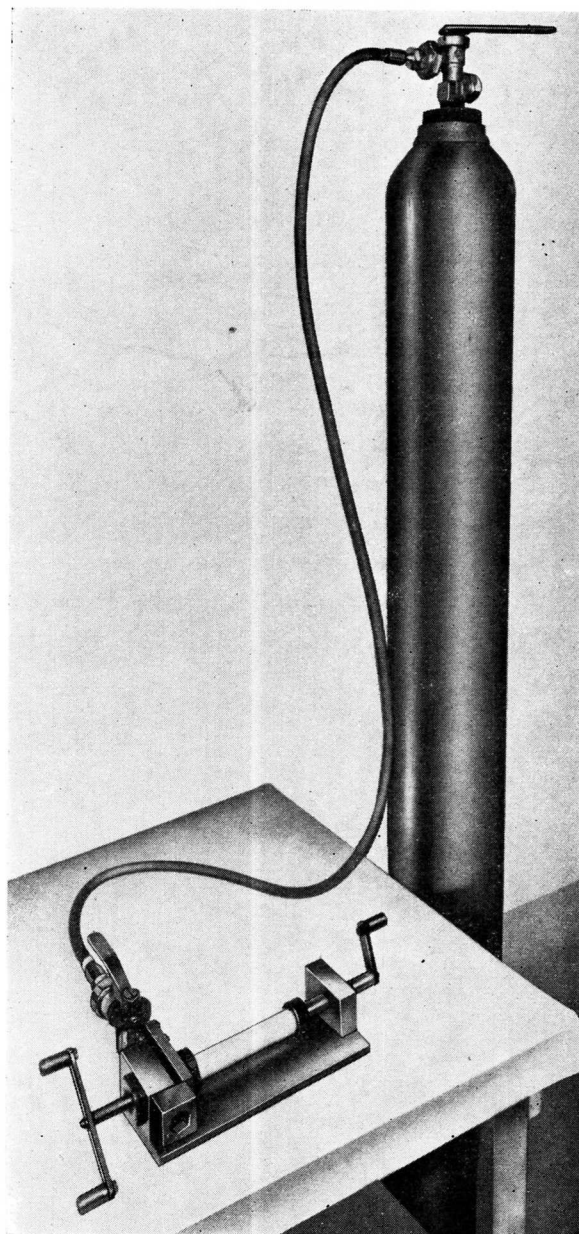

Fig. 1. Charging head and supply cylinder
1. The charging head (*Stores Ref.* 6D/1638) is used for filling 34 gramme cylinders fitted on Mk. 2, 3 and 4 life jackets from a bulk supply cylinder (fig. 1). It may also be used to fill the 86 gramme cylinder used on parachutist life jackets. The following spare parts are required when cylinders are to be filled.